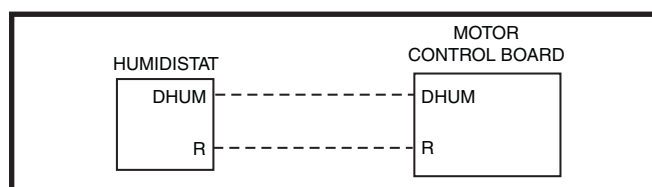

Figure 6. DHUM Wiring Configuration
The unit has an output to power a humidifier when the blower is running. This output is rated to 1.0 amp at 208/240V. Connection is made to the **HUM** terminal on the motor control board. See Figure 6.
1. If the room thermostat incorporates a humidity sensor and **DHUM** output, connect the **DHUM** on the thermostat to the **D** terminal on the motor control board. See Figure 6.